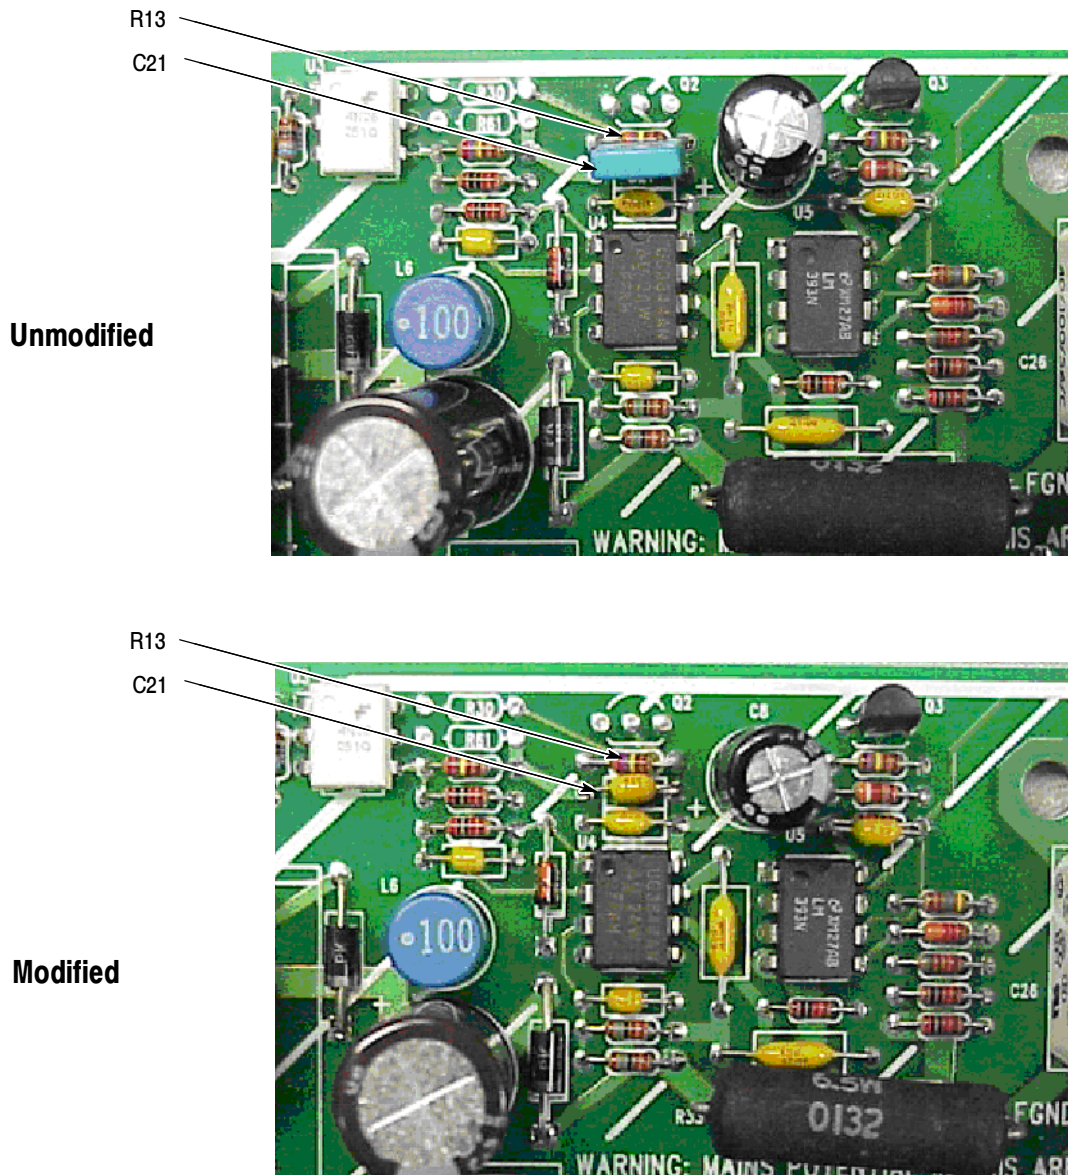

Figure 5: Replacing R13 and C21
7. Replace resistor R13. See Figure 5.
8. Replace C21. See Figure 5.